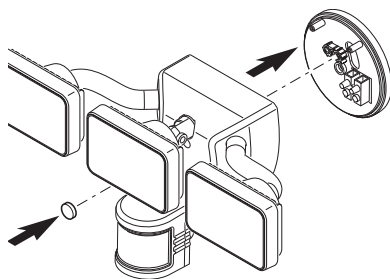

Figure 5
3. Tighten the mounting bolt securely being careful not to overtighten (see Figure 5).
4. Push the plastic plug firmly into the mounting bolt hole on the light fixture (see Figure 5).